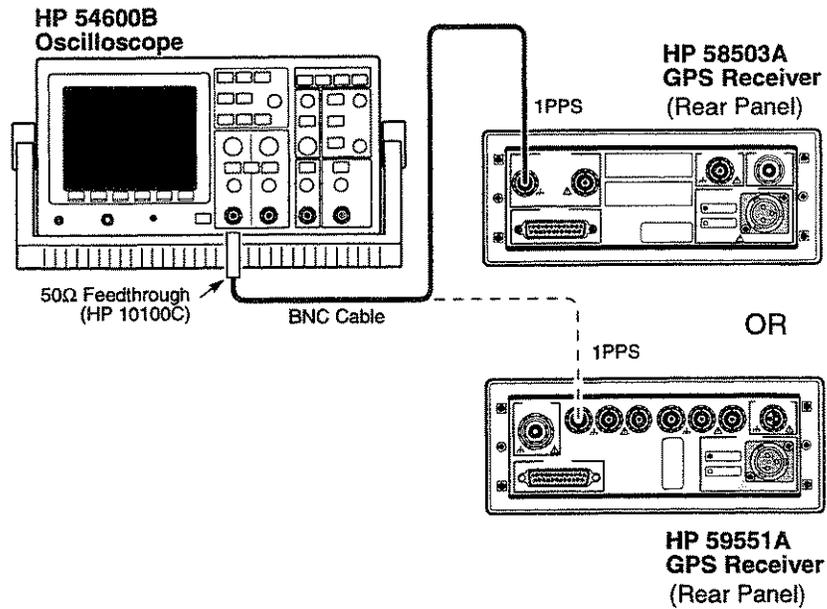

Figure 2. 1 PPS Operational Verification Setup
- 2 Connect the oscilloscope to the rear-panel **1 PPS** output of the Receiver as shown in Figure 2.